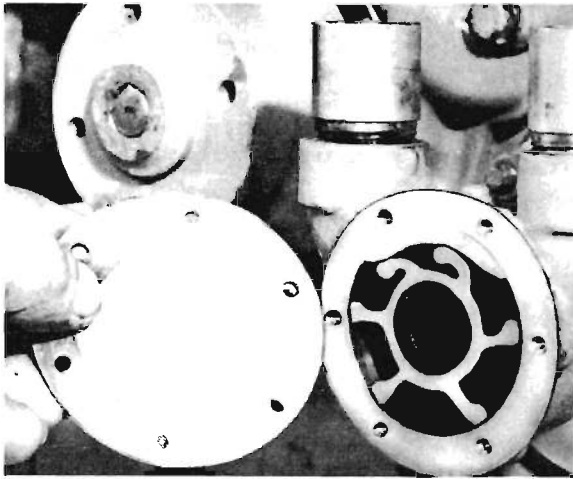

Fig. 7
11. Remove end plate from the sea water circulating pump and lubricate the interior of the pump body with Glycerine (see fig. 7), or remove impeller for lay-up period. Always use a new joint when refitting back plate.